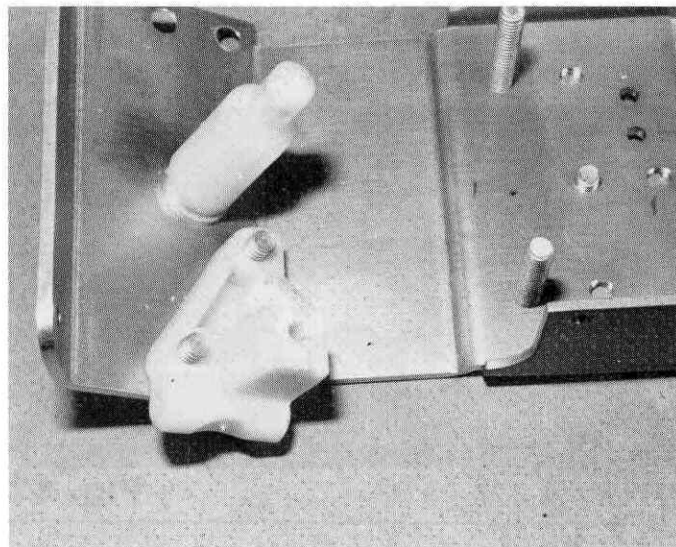

Fig. 6
□ **Fig. 6** Install the L.H. suspension mount, as shown, with the 3 Phillips screws. Now, install the right hand mount.